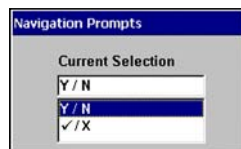

Figure 5-23 Sample Navigation Prompts dialog box
2. The Navigation Prompts dialog box displays (Figure 5-23).